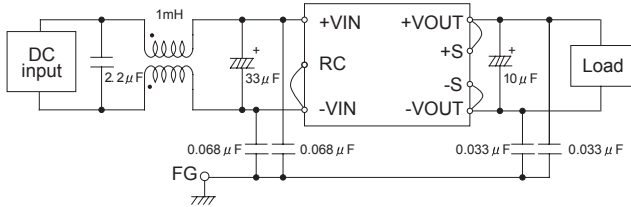

Fig.3.1 Recommended external input filter
(2) External capacitor on the input side
(3) Recommended of noise-filter
■ Install an external input filter as shown in Fig.3.1 in order to reduce conducted noise.